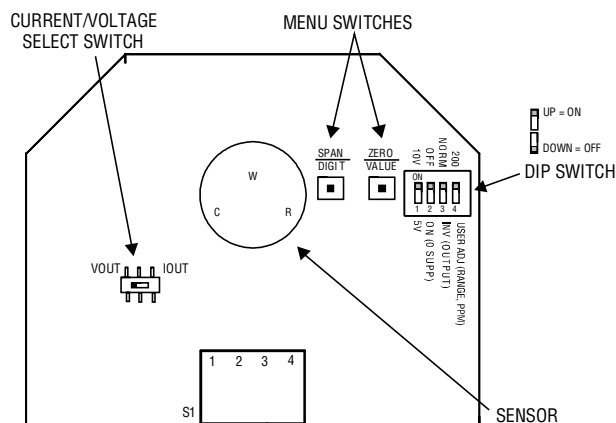

Figure 3
- Set DIP SWITCH and IOUT/VOUT SWITCH as desired. Refer to Figure 3.
To access the current/voltage select switch, remove the cover of the unit. The current/voltage select switch is located on the circuit board as shown in Figure 3. Set the switch to "IOUT" for current, "VOUT" for voltage.
To access the DIP SWITCH, remove the cover of the unit. The DIP SWITCH is located on the circuit board as shown in Figure 3.
1. Remove the cover plugs from the face of the unit and top cover. Locate the sensor, see Figure 3 – the sensor is mounted on three pin sockets. The circuit board is labeled either “CO SENSOR” or “NO2 SENSOR” underneath the sensor.